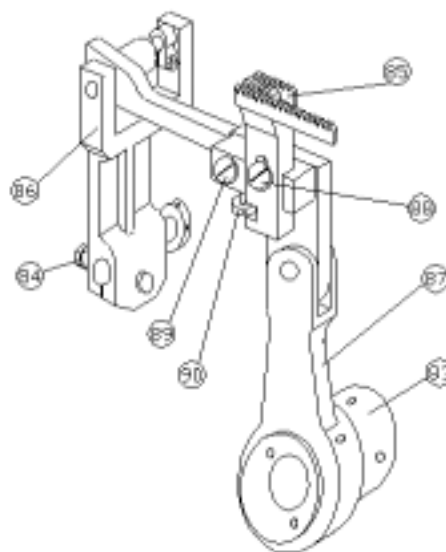
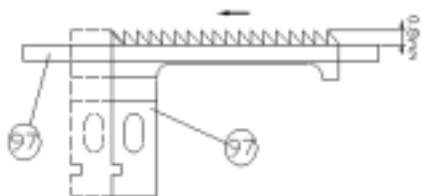

FIG. 25
FIG. 26
- (b) Loosen the screws of the feed dog lift eccentric (83) and the screws of the stitch-lengthening fork. Precisely true up the needle hole of the throat plate (28) with the needle, making sure that the throat plate is in an orthogonal position. FIG. 25.
- (c) Center the feed dog (85) in the throat plate which should be fixed beforehand, so that at the ends of its traverse the two ends of the feed dog are equidistant from the inner parts of the slots in the throat plate; to do this adjust the stitch-lengthening fork (86) and if necessary move the feed dog lift eccentric (83) along its axis so as to avoid off-center positions that could cause distortions in the movement. Tighten the screws of the feed dog lift eccentric and the stitch-lengthening fork. FIG. 25.
- (d) Loosen the clamping screws of the stitch-lengthener eccentric (91). Turn the hand-wheel to bring the needle bar to its L.C.D. Move the stitch lengthener eccentric radially to the position in which the feed dog does not move when the stitch lengthener support is moved by hand (80). Tighten the screws of the eccentric while keeping the connecting rod in line (92).
- (e) Turn the hand-wheel to bring the feed dog (85) to its highest point above the throat plate and adjust the two screws (88-89) to position the feed dog parallel to the throat plate.
- (g) The maximum height of the feed dog above the throat plate should be 0.8mm when the needle bar is at its U.D.C. FIG. 26.